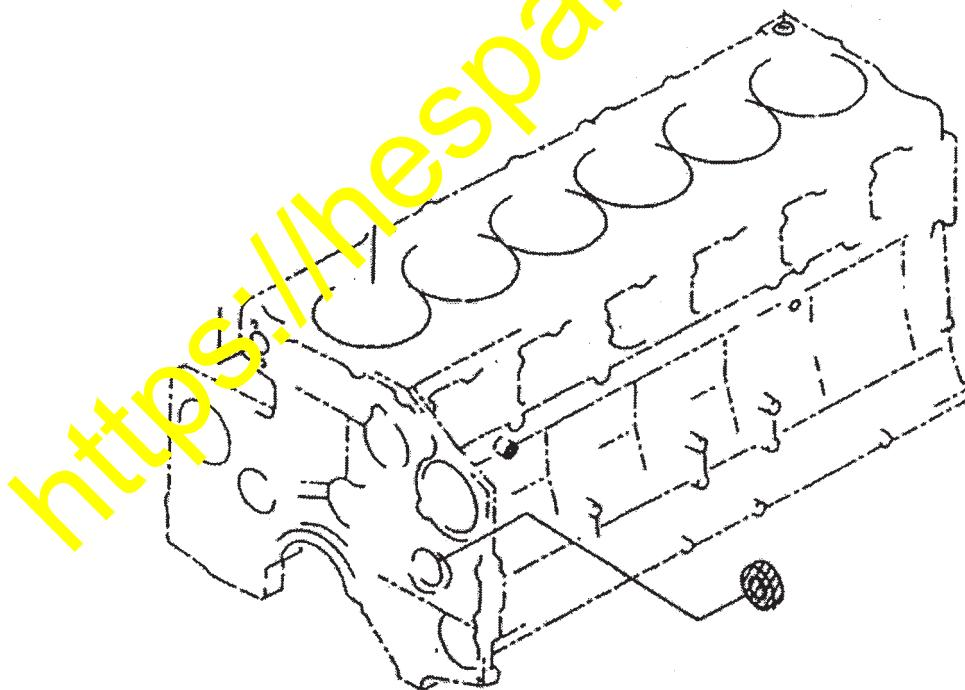

Fig. 1: The position of oil seal
- 1) ① According to Shop Manual, remove the injection pump and remove the oil seal. (Fig. 1)
② Observe the following “2) Precautions”, and press-fit the improved oil seal.